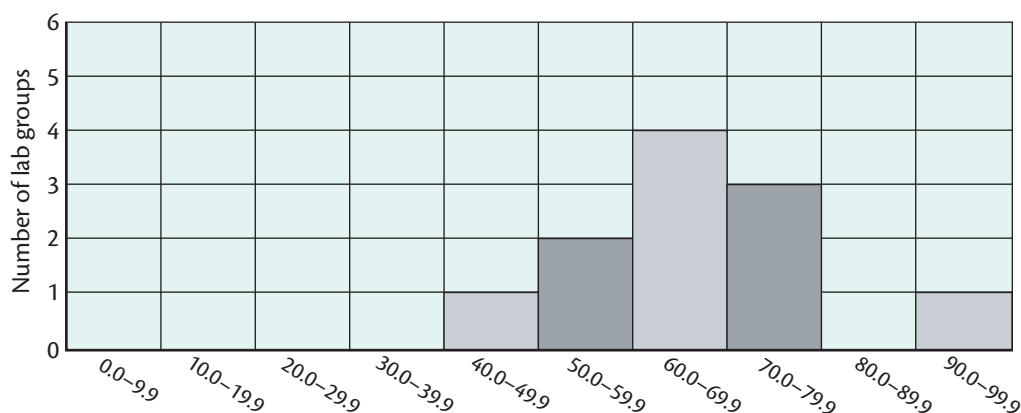

Figure 6 Typical histogram of foul-water recovery data.
1. Construct a **histogram** showing the percent recovery obtained by all laboratory groups in your class. To do so, organize the data into equal subdivisions such as 90.0–99.9%, 80.0–89.9%, and so forth. Count the number of data points in each subdivision. Then use this number to represent the height of the appropriate bar on your histogram, as illustrated in Figure 6. In this histogram you can see that three data points fell between 70.0% and 79.9% in this example.